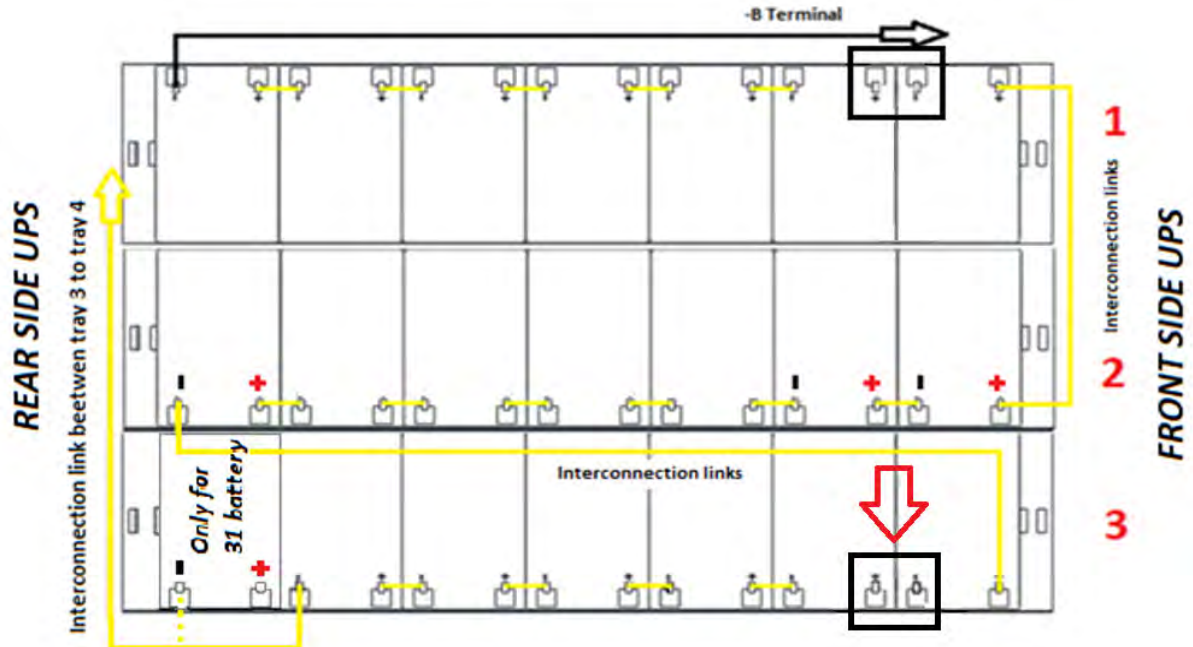

Figure 45 - View from above Level No.1 with battery connections
21) From the left hand side of the UPS, partially extract tray no. 3 and insert the missing jumper as demonstrated in the figure 45